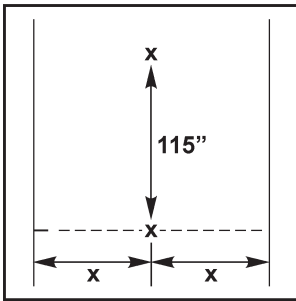
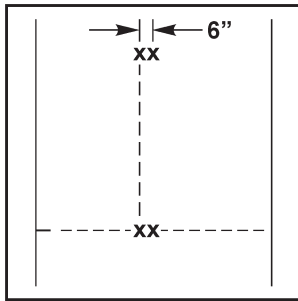

Figure 7
Figure 8
2. Find and mark the center of the lane at the base and 115 inches above the base (see Figure 7).
3. Measure 6 inches to the LEFT of each point in Figure 7 and snap a vertical chalk line (see Figure 8).